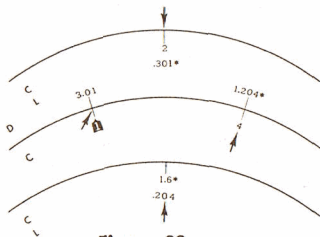

Figure 20
**Example:**  $(2)^4 = 16.0$  (Figure 20)